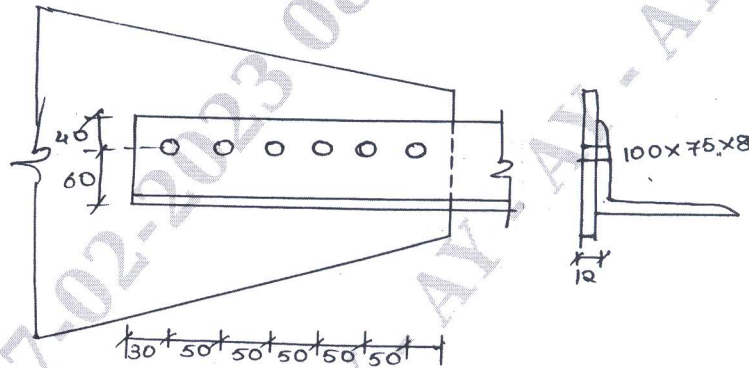

Fig.Q.8
- 8 A single unequal angle $100 \times 75 \times 8$ mm is connected to a 12mm thick gusset plate at the ends with the 6 no's of 20mm diameter bolts to transfer tension as shown in the Fig.Q.8. Determine the design tensile strength of the angle if the gusset is connected to 100mm μ g. The yield strength ultimate strength of the steel used are 250MPa and 400MPa. The diameter of the bolts used is 20mm. (20 Marks)